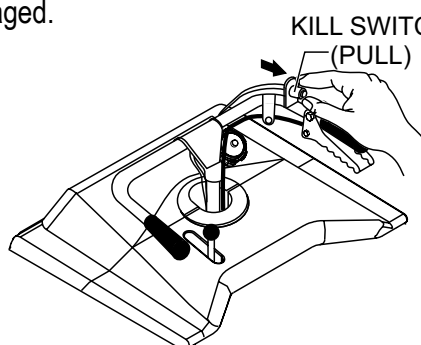

Figure 9. Kill Switch OFF
- Before attempting to start the power buggy, make sure that the **safety kill switch** (Figure 9) is not pushed in. The power buggy will not start with the kill switch engaged.